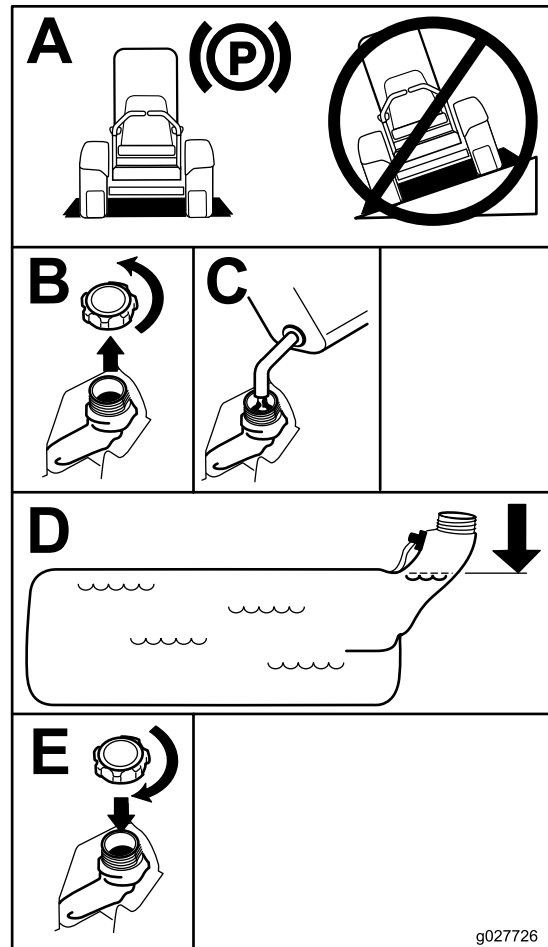

Figure 9
5. Fill the fuel tank to the bottom of the filler neck (Figure 9).